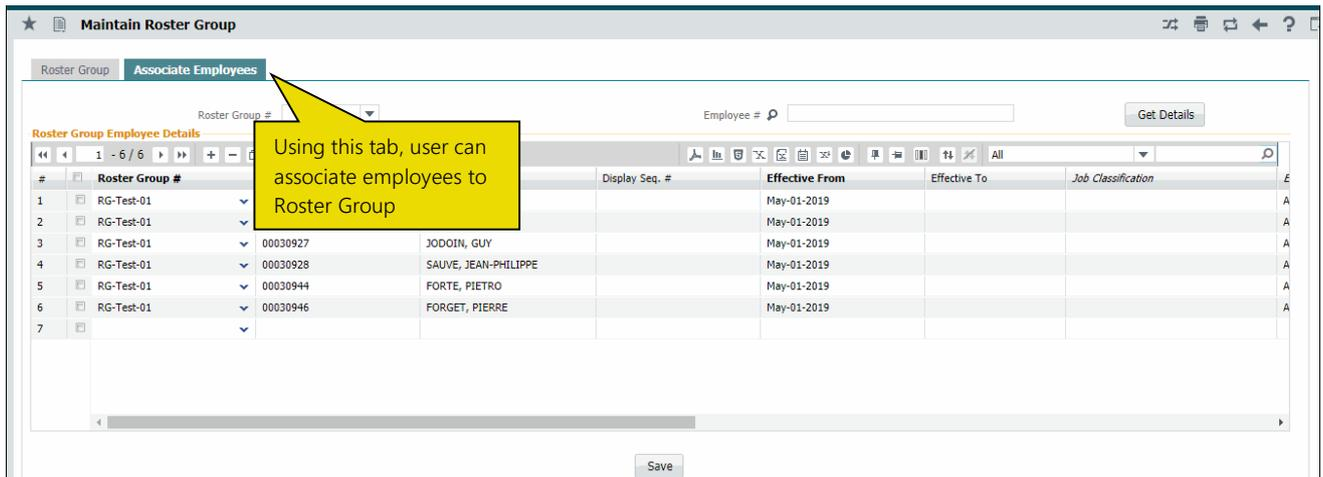

Figure 2.8 Associating Employees to Roster Group
1. Select the **Associate Employees** tab to associate employees to the Roster Group. See Figure 2.8.